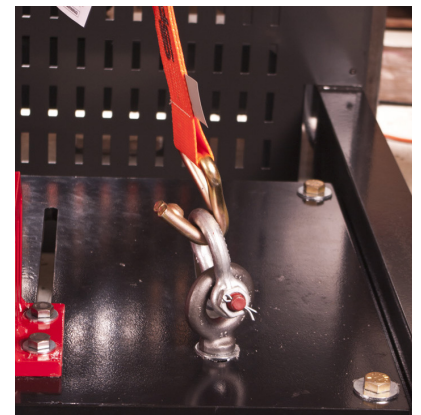

Figure 4
4. Secure the Eyebolts in the outer set of slots on the Tube Sheet Support Table with the 171K Nuts, and 549-27 Washers included in the box labeled “Tube Sheet Support Table Hardware”. Attach Shackles to the Eyebolts. The Ratchet Strap can be utilized by attaching it to the Shackles with the J-hooks (Figure 4).